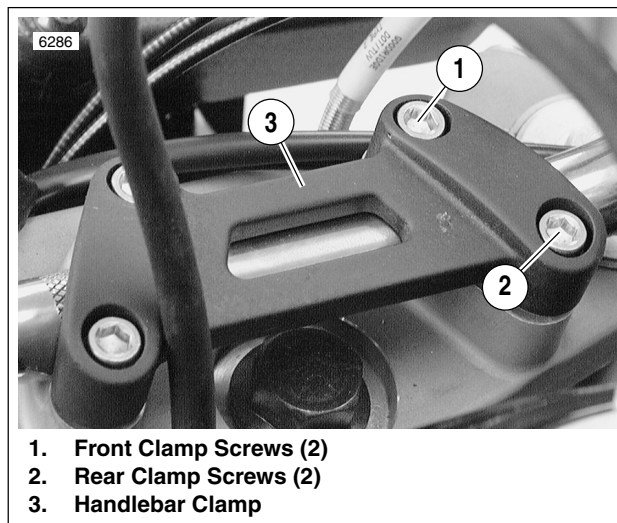
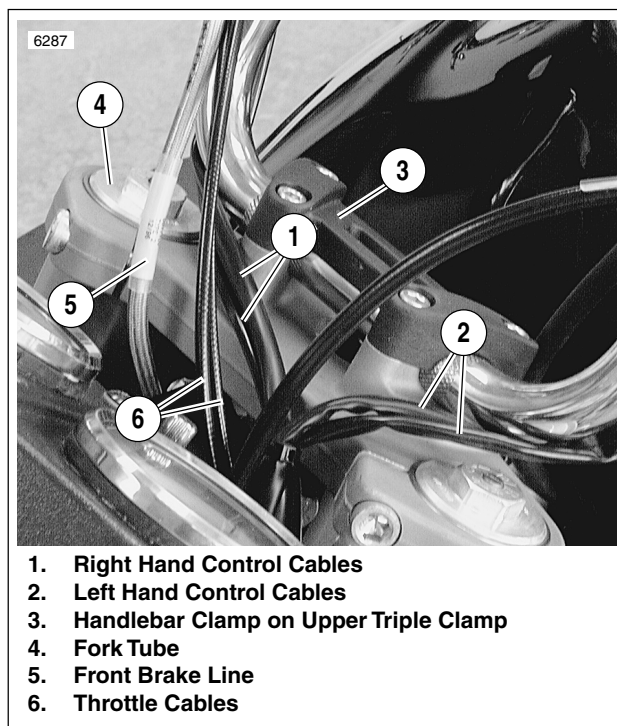

Figure 2-90. Handlebar Clamp
Figure 2-91. Routing Hand Control Wires
5. See Figure 2-90. Remove four screws (1, 2) from handlebar clamp (3).
3. See Figure 2-91. Install handlebar clamp.
- a. Route right hand control wires (1) under handlebar and in front of fork tube (4) and handlebar clamp (3).
- b. Route left hand control wires (2) under handlebar and in front of fork tube (4) and handlebar clamp (3).
- c. See Figure 2-90. Tighten both front screws (1) to 10-12 ft-lbs (14-16 Nm).
- d. Then tighten both rear screws (2) 10-12 ft-lbs (14-16 Nm).